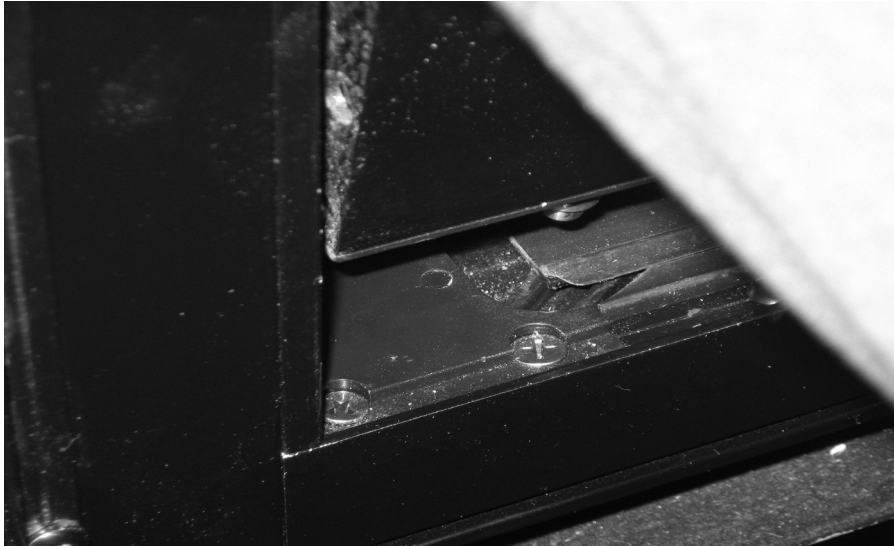

FIGURE 44: POSITIONING THE LOWER LEFT CORNER OF THE SASH
2. Position the left hand lower corner of the sash over the front cam follower block (Figure 44)